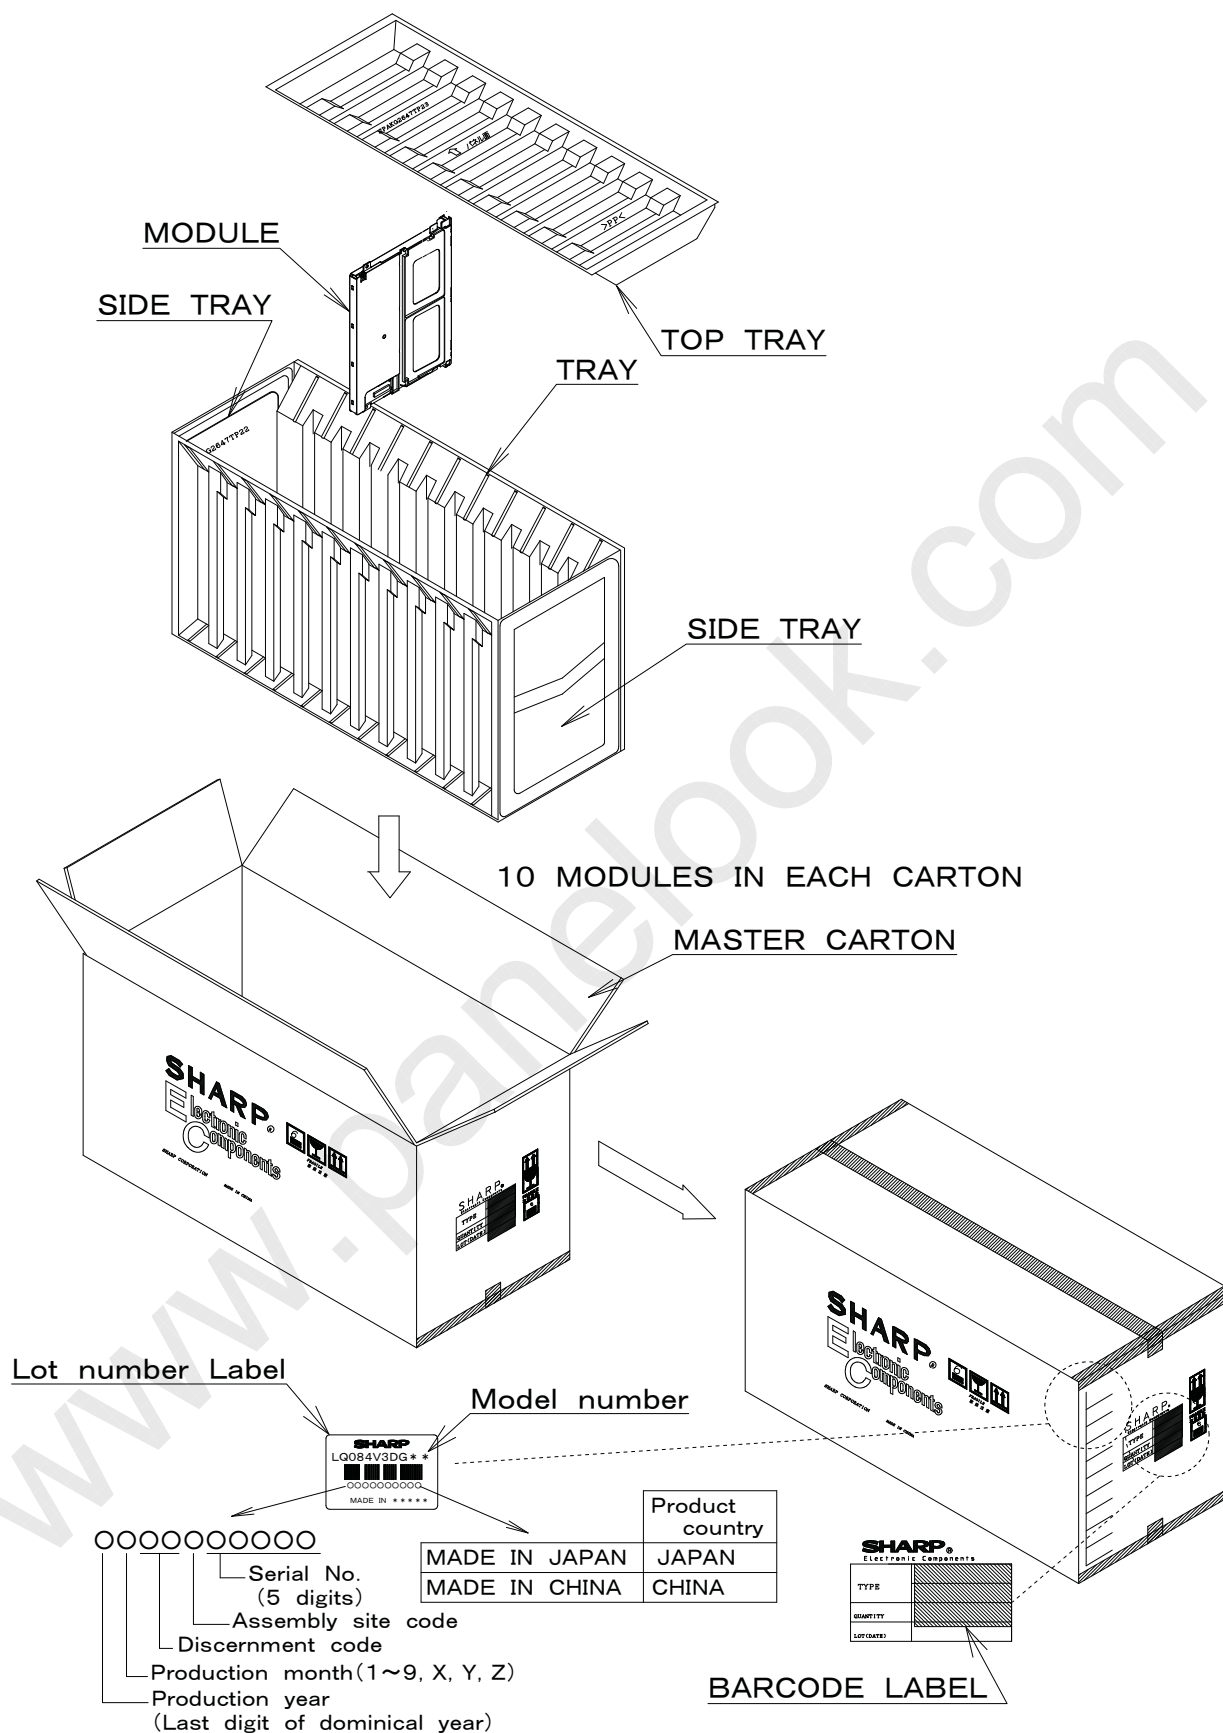

FIG. 4 PACKING FORM
12.1 Fig.4 shows packaging form.